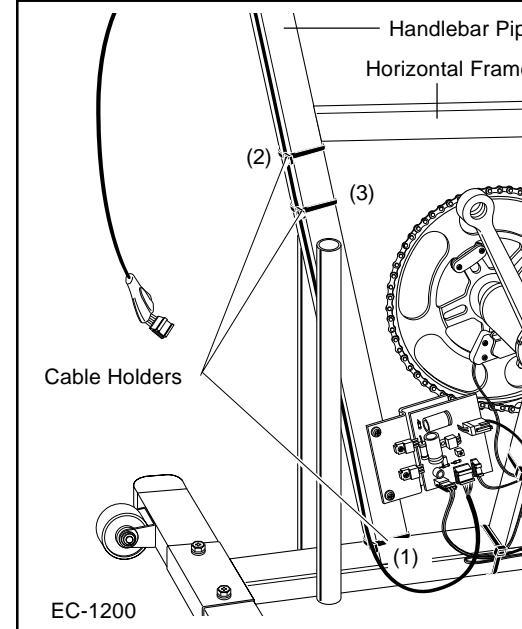
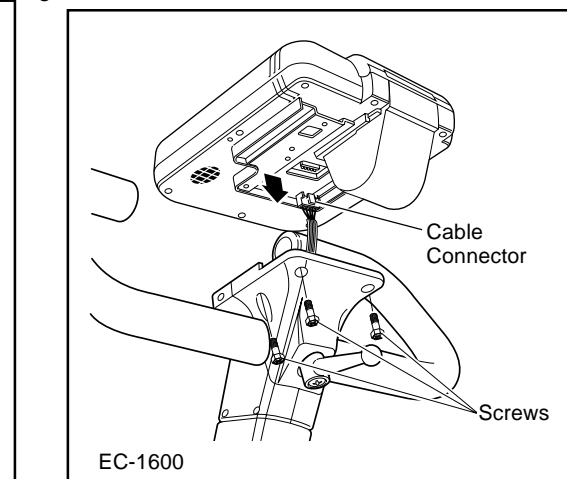

Fig. 4
Fig. 5
1. Loosen the four screws which fix the control unit to remove the control unit. Also, remove the cable connector. (Fig. 4) Slide the inner handlebar post cover upward, and unplug the cable connector. (Fig. 5)
2. Connect the cable connector to the control unit, and fix the unit to the handlebar post by using four screws. (Fig. 5)